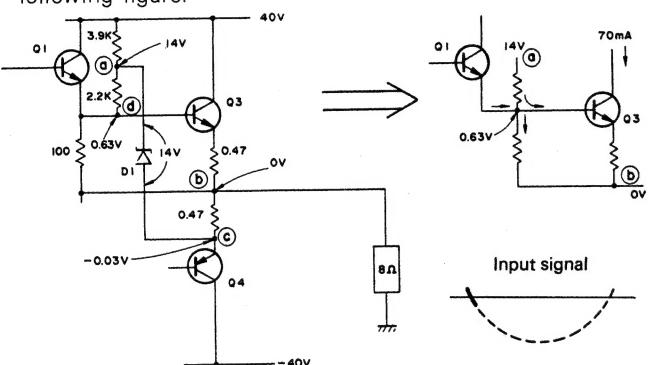

Fig. 5 Input signal goes from positive to negative
the voltages at points ④ through ①. The base-emitter voltage V_{BE} of Q3 is 0.56V (see Fig. 5, 6 and 7), thus the Q3 is not cut off. The Q3's collector current will be about 30 mA, which is reduced from the initial 70 mA.